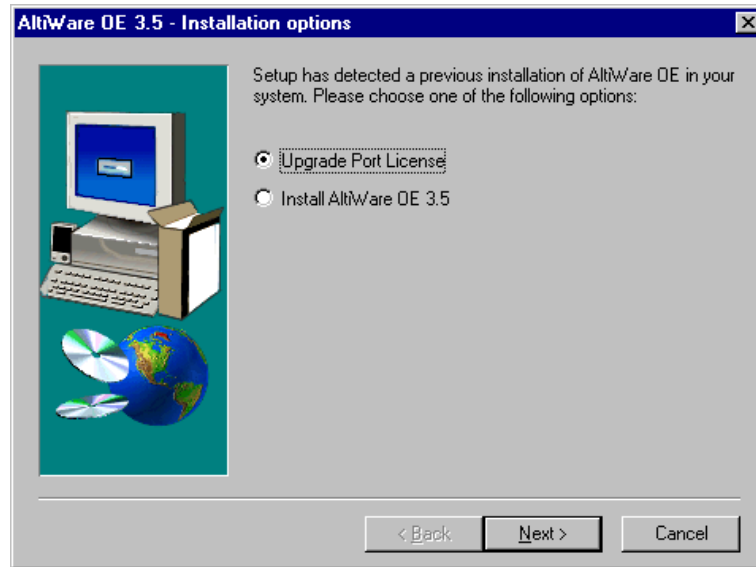

Figure 2-2. Installation Options screen
3. The system prompts you with the following Installation Option screen (Figure 2-2). Select the **Upgrade Port License** option and click '**OK**'.